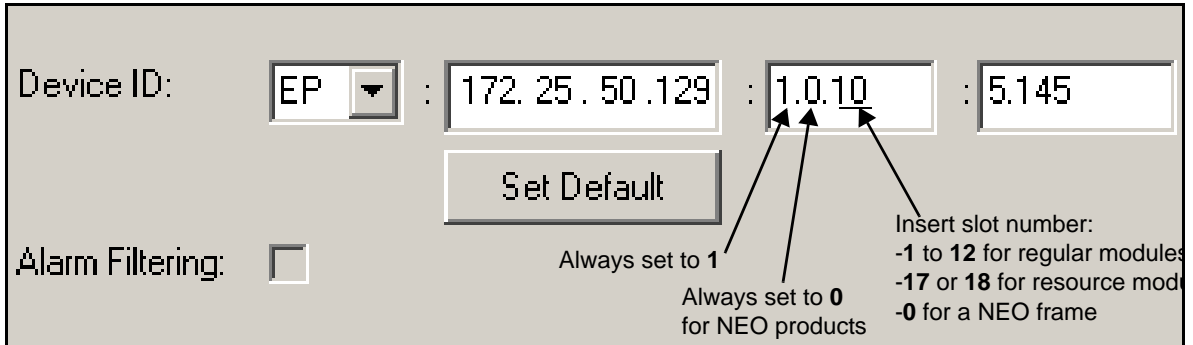

Figure 2-22. Inserting Numbers in the Frame and Slot Field
5. In the third field, enter the slot number of the module as shown in Figure 2-22, and then close the window.
To enter information into the frame and slot field (the third field in CCS-3.0), follow the convention shown in Figure 2-22 on page 61. The first number in the third field should always be **1**. The second number should always be **0**. The third number is the slot number in the NEO frame (for example, **10**). Resource modules will now appear as **17** or **18** in this third number spot, instead of **101** and **102**, as in earlier versions. In the unlikely event that you cannot discover the frame, the number **0** may be used to represent the frame.